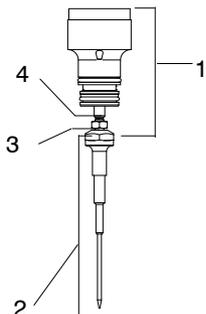

Figure 19: Piston/Cartridge Assembly and Needle Assembly
- a. See Figure 19. Loosen jam nut (3) on piston shaft and back nut up until against piston shaft shoulder (4).